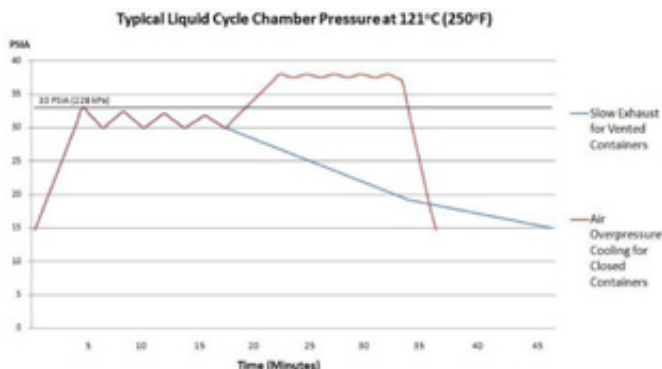

Figure 3. Typical liquid cycle chamber pressure at 121 °C (250 °F)
- Liquids require modified gravity cycles to prevent liquid loss from boiling over. Liquids in open or vented containers or in bottles with loose caps can be processed in a “basic” liquid cycle (with slow exhaust). The cooling (exhaust) phase of this cycle allows for the chamber to slowly return to atmospheric pressure to prevent boil-over as seen in Figure 3. Nominal liquid loss due to evaporation during the slow exhaust phase is typically 10 to 15%. The time required for the slow exhaust phase can vary considerably depending on the volume of liquid per container and per load. Larger volumes require slower exhaust rates. Use of a load probe and Fo exposure control is recommended. Vented containers only are to be used with this process.
Liquids are at or near boiling temperature at the end of a slow exhaust cycle and must be allowed to cool before the load can be safely removed from the sterilizer. Liquids in sealed containers require an air overpressure cooling cycle to prevent explosion of the container(s) during the cooling phase or unloading process as seen in Figure 3. Clean, dry compressed air (process air) is admitted to the sterilizer chamber at the end of the exposure phase and controlled at a pressure higher than the pressure of saturated steam at the temperature of the load probe. As the air flows over the load, the load is cooled and the chamber pressure starts to drop due to condensation of steam in the chamber. The supplied compressed air flow rate must be sufficient to maintain overpressure during the entire cooling phase. This “Air Cooling” process is highly recommended for sterilization of liquids in sealed OR vented containers because it eliminates evaporation and boil-over during the cooling phase. In addition, liquids can be cooled to a temperature safe for handling (600 C to 800 C or 1400 F to 1760 F) during the process by flowing water through the sterilizer jacket during the cooling phase. The load can be safely re-